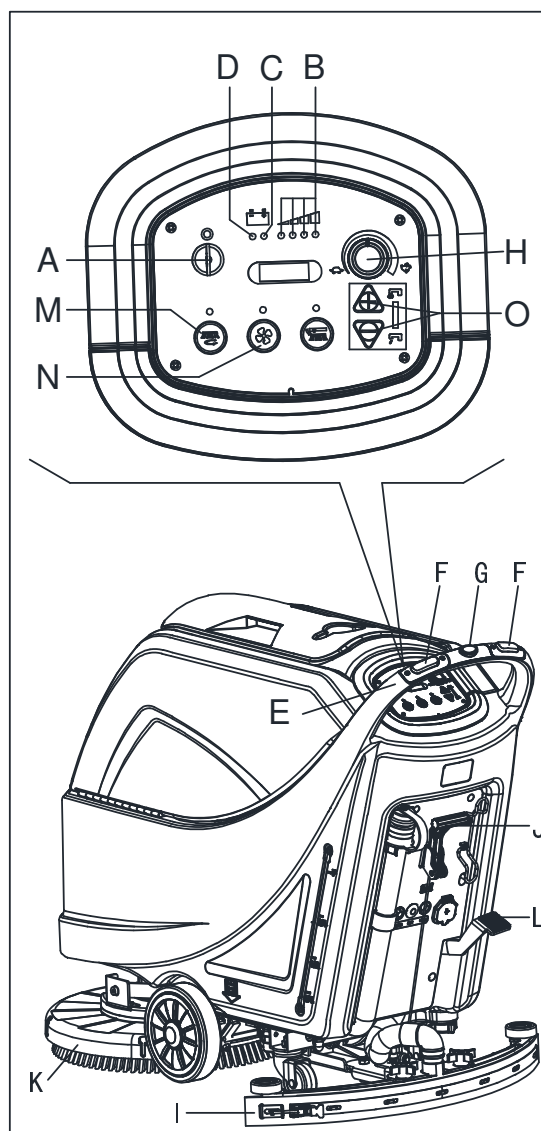

Figure 8
2. Insert the ignition key (A, Figure 8) and turn it to "I". Check that the green warning light (B) turns on (charged battery). If the yellow (C) or red warning light (D) turns on, turn the ignition key back to "0" and charge the batteries (see the procedure in Maintenance chapter).
- By pushing it with the hands on the handlebar (E) (only for machine without traction).
- By pushing it with the hands on the handlebar (E) and pressing the switch (F) to move forward, or pressing the switch (F) together with the switch (G) to move backward (only for machine with traction). The forward speed can be adjusted with the adjuster (H).
4. Lower the squeegee (I) with the lever (J).
5. Lower the brush/pad holder deck (K) by lifting the pedal (L).
6. Press the brush/pad holder switch (M) and the vacuum system switch (N).
7. Press the washing water flow control switches (O) as necessary, depending on the type of cleaning to be performed.
- (only for machine without traction) by pushing the machine with the hands on the handlebar (E) and pressing the switch (F).
- (only for machine with traction) by pushing the machine with the hands on the handlebar (E) and by pressing the switch (F). If necessary, the forward speed can be adjusted with the adjuster (H).
2. While keeping both hands on the handlebar press the safety switch (F, Figure 8), then maneuver the machine and start scrubbing/drying the floor.